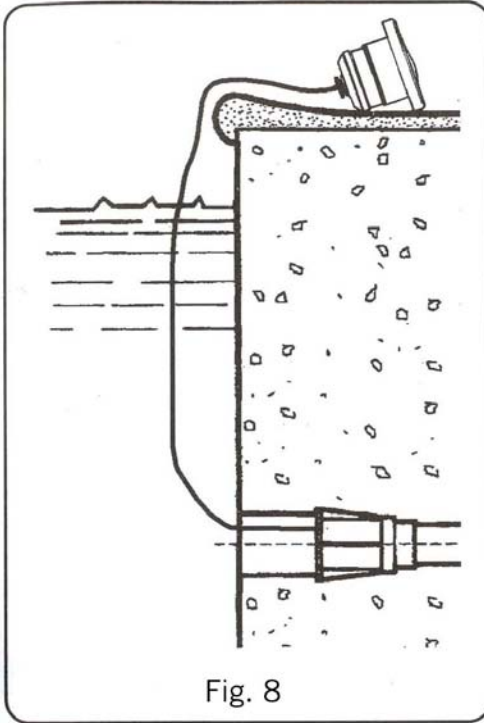

Fig. 8
The spotlights are supplied with a 4-wire 1.5mm² Cu H07RNF cable. This cable is connected to the connection strips as indicated in figure 8.
The pushbutton is normally closed (NC). It is connected in the terminals indicated "pushbutton input" shown in figure 8.